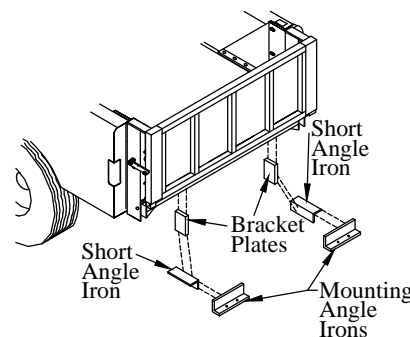

Figure 25: Lower bracket support.
2. **Bolt** the bracket plates to the truck frame (Figure 25). The bracket plates will need to be modified.